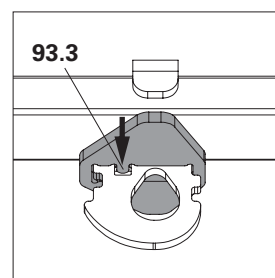

Fig. A11.06g
3. Insert the locking finger (**93.3**) into the hole. (Fig. A11.06g + A11.06h)